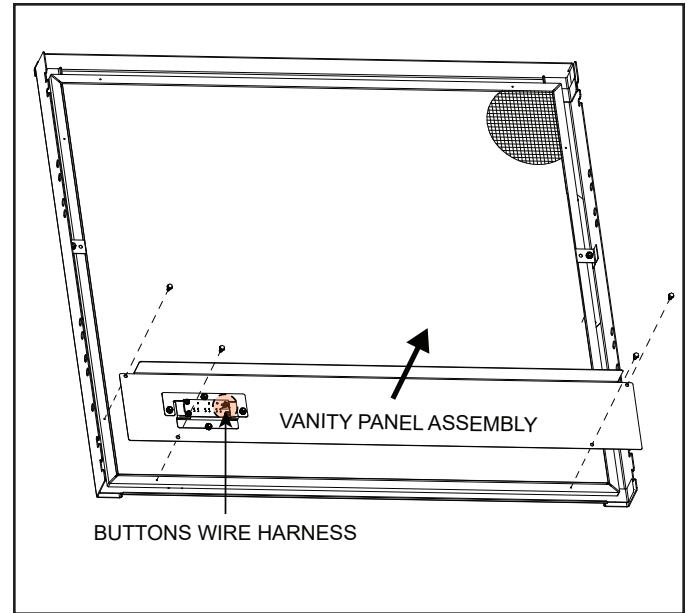

Figure 3.1 Vanity Panel Assembly Removal
5. Remove the four (4) screws securing vanity panel assembly to the decorative front. See Figure 3.1.